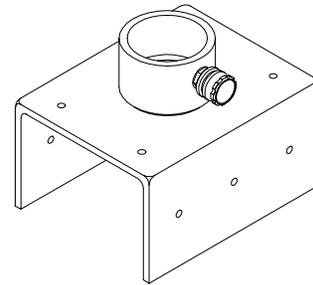

Figure 1-12. 6" (15.2 cm) x 6" (15.2 cm) Channel Base
i. **6" (15.2 cm) x 6" (15.2 cm) Channel Base.** The 6" (15.2 cm) x 6" (15.2 cm) channel base (Figure 1-12) is essentially a 3" (7.6 cm) standard base secured to a 6" (15.2 cm) x 6" (15.2 cm) channel. The channel is 7" (17.7 cm) long x 4" (10.2 cm) high x 5-1/2" (14.0 cm) wide. The channel base is designed specifically for shoring operations. It fits snugly over 6 x 6 shoring lumber where it can be anchored with screws or nails.